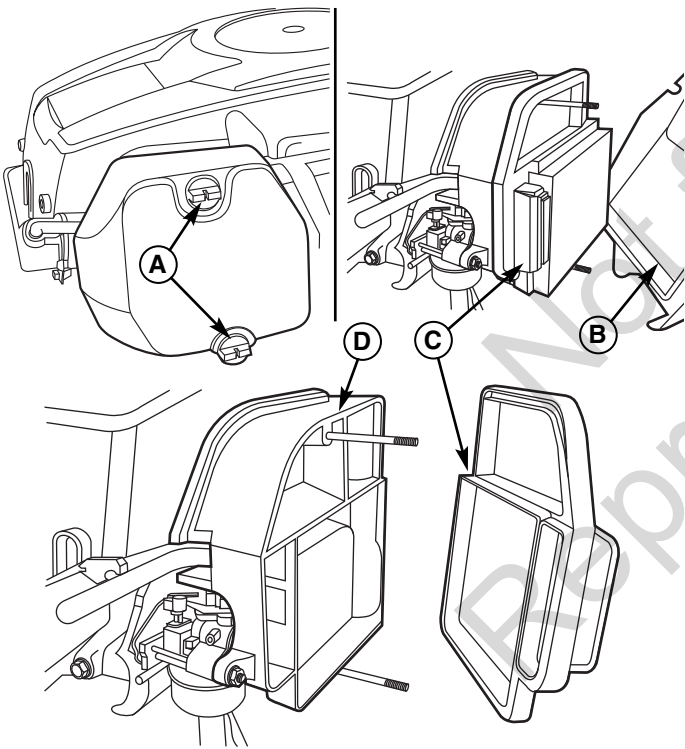

Figure 30. Air Filter Assembly
1. Loosen the air filter cover knobs (A, Figure 30) and remove the cover (B). Clean out any debris from around the air filter. Inspect the condition of the sealing surfaces of the air filter element (C) and filter base (D). Replace any damaged parts.
2. Remove the air filter element (C).
3. Install the new air filter element with the pleated side out and seat it onto the edges of the air cleaner base (D).
4. Reinstall the air filter cover (B) and secure with the two knobs (A).